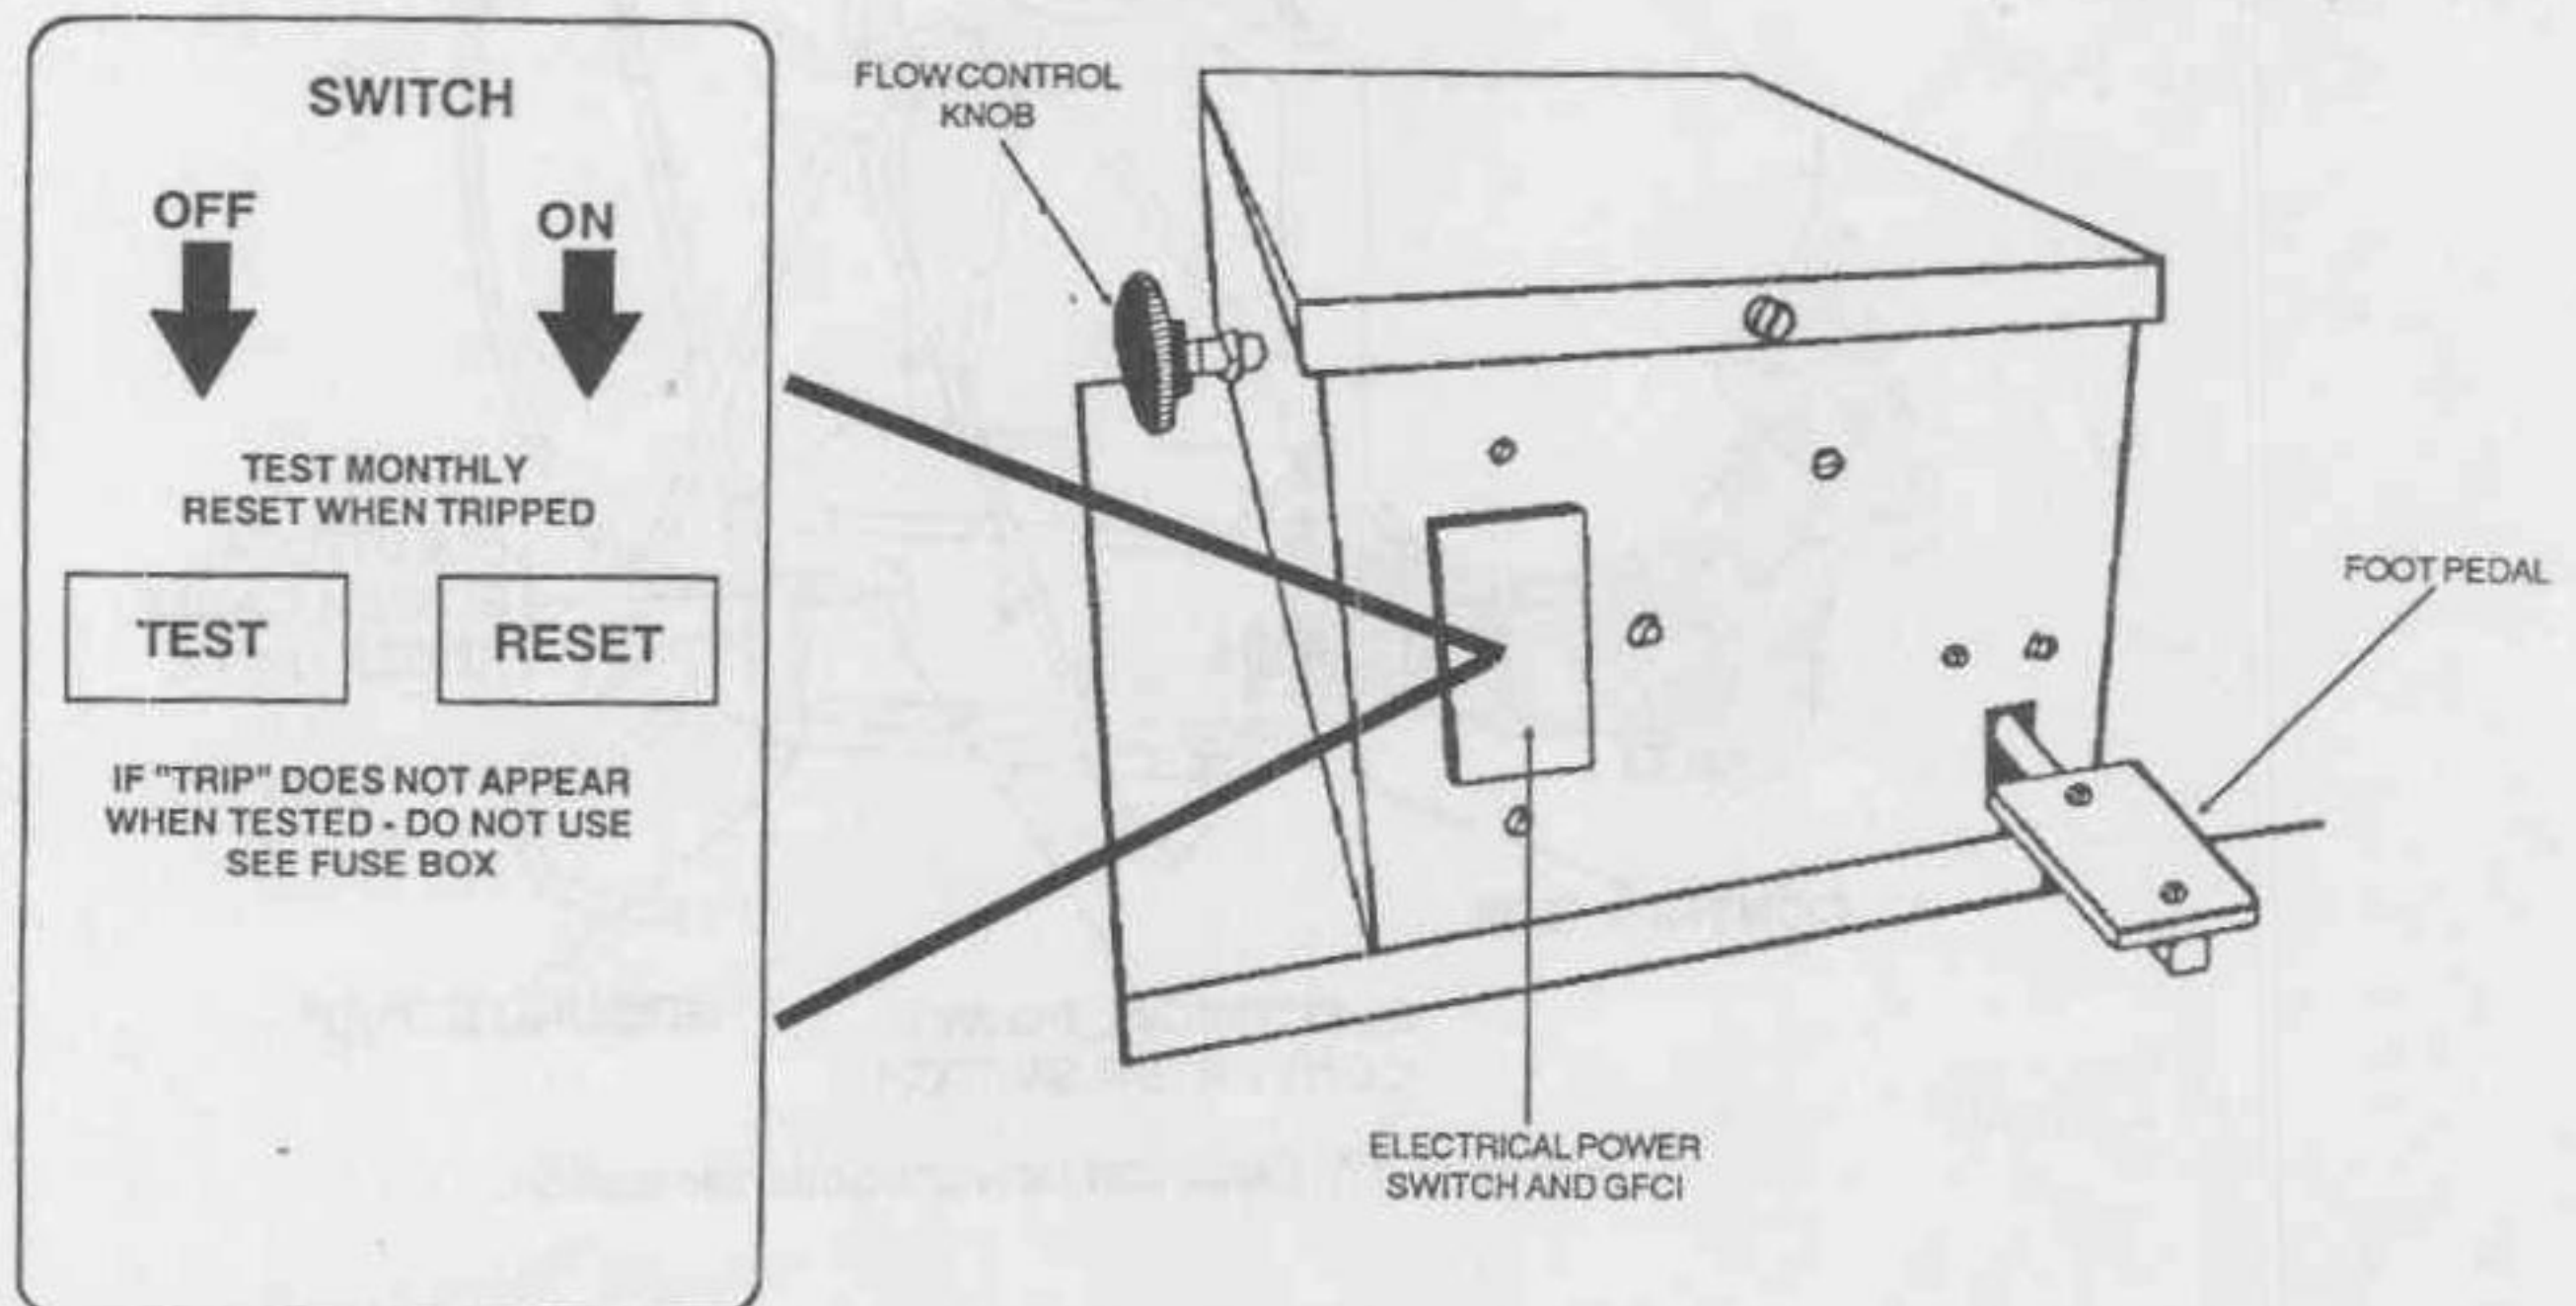

Figure 2-15. Control box components.
a. *Foot pedal (fig 2-15).* The foot-operated pedal is depressed to turn on the water pump and heater and allows water to be circulated, heated, and pumped out of the faucet. Releasing the pedal turns off the water pump, heater, and water flow from the faucet.
b. *Electrical power switch and ground fault circuit interrupter (fig 2-15).*
(1) The GFCI serves as the electrical power switch and as a safety device in the event of an electrical ground fault. The portable scrub sink is electrically powered by depressing the red button of the GFCI labeled "RESET/ON." The yellow button labeled "TEST/OFF" is depressed to shut off the sink.
(2) The portable scrub sink is tested for an electrical ground fault by depressing and holding the foot pedal while simultaneously depressing the "TEST/OFF" (yellow) button on the GFCI. The "RESET/ON" (red) button should spring out and shut off the unit.
c. *Flow control knob (fig 2-15).* The flow control knob is used to adjust the flow of water from various sources. The flow is increased by rotating the knob counterclockwise and decreased by rotating the knob clockwise. This control is normally only used when the portable scrub sink is initially set up for a specific source of water.